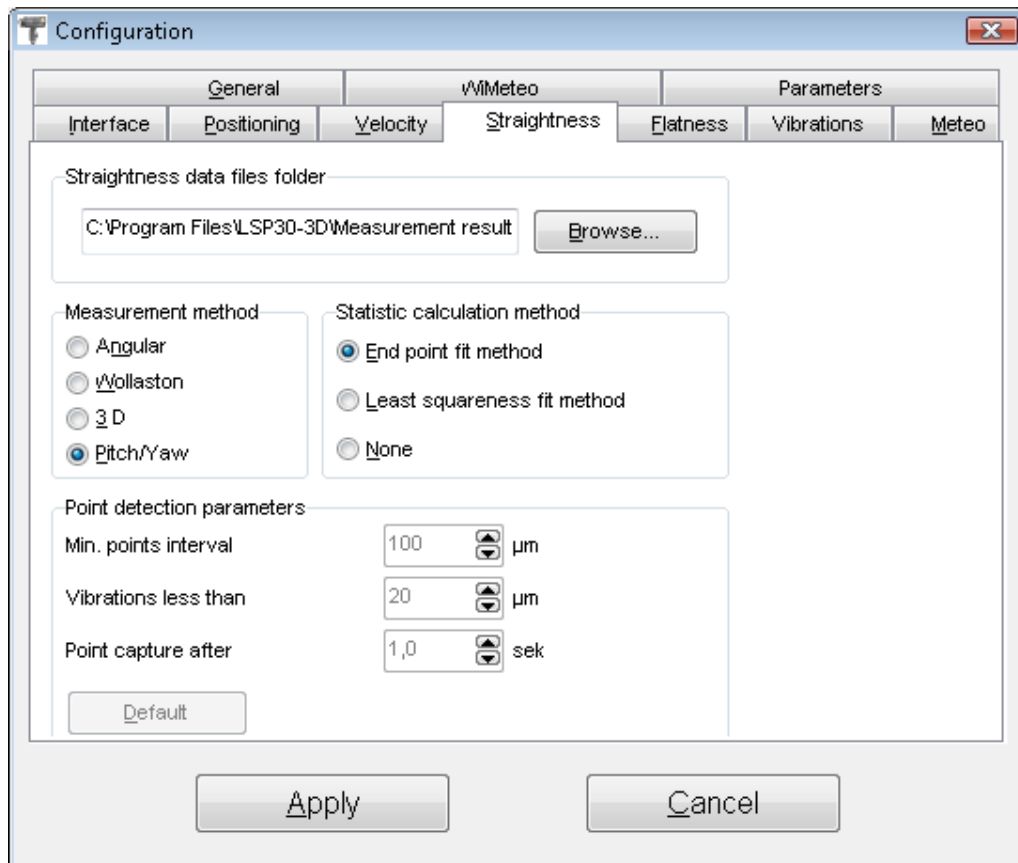

FIG. 7.14. STREIGHTNESS CONFIGURATION OPTIONS
- **Configuration** – opens Configuration window as shown on figure 7.14.